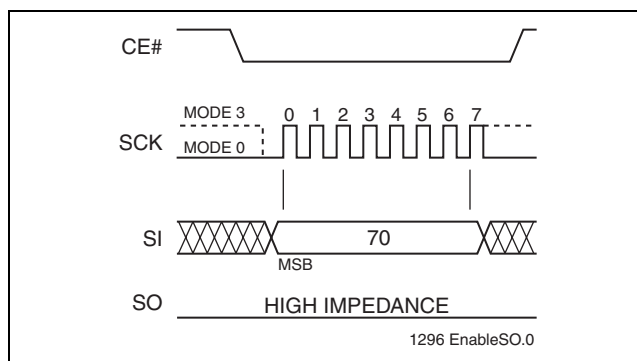

FIGURE 8: Enable SO as Hardware RY/BY# during AAI Programming
The hardware end-of-write detection method eliminates the overhead of polling the Busy bit in the Software Status Register during an AAI Word program operation. The 8-bit command, 70H, configures the Serial Output (SO) pin to indicate Flash Busy status during AAI Word programming. (see Figure 8) The 8-bit command, 70H, must be executed prior to executing an AAI Word-Program instruction. Once an internal programming operation begins, asserting CE# will immediately drive the status of the internal flash status on the SO pin. A “0” indicates the device is busy and a “1” indicates the device is ready for the next instruction. De-asserting CE# will return the SO pin to tri-state.